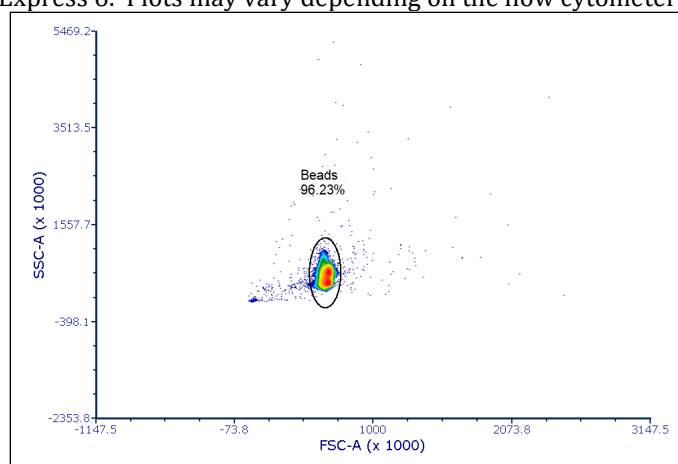

Fig. 1. FSC/SSC scatter plot with Beads gated.
1. Forward and side scatter plot of Gating Beads collected on a BD Accuri C6 flow cytometer and analyzed using FCS Express 6. Plots may vary depending on the flow cytometer used (Fig. 1).